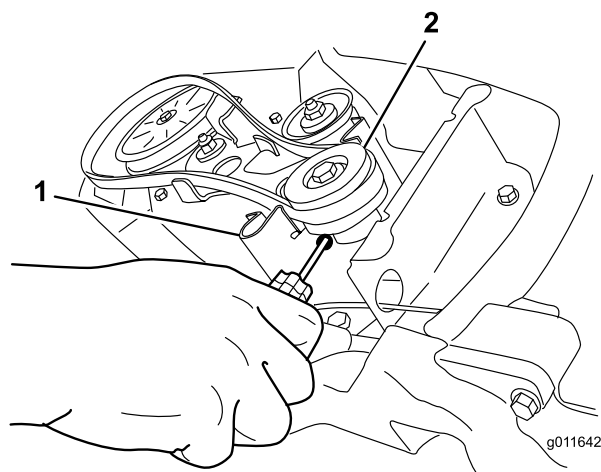

Figure 32
5. Insert a screwdriver into the hole in the belt guide as shown in Figure 32, and flex the belt guide toward the rotor pulley enough to pull the belt through the gap.